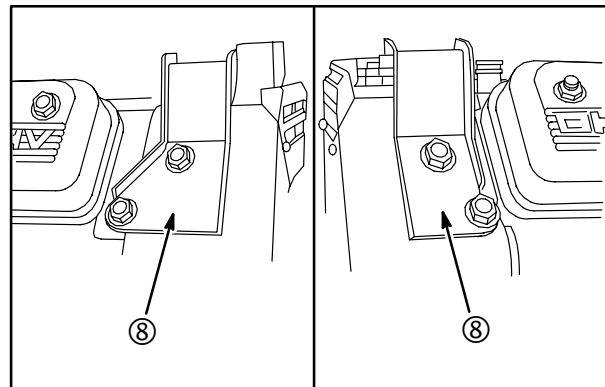

Fig. 4
9. If necessary remove 4 screws and 2 flywheel side fuel tank base supports (8), **Fig. 4**.
1. Install 2 flywheel side fuel tank base supports (8), **Fig. 4**. Torque screws to **140 in. lbs. (16 Nm)**.